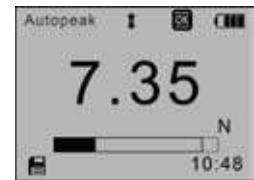

Figure 2-12
*Series:* Continuous data logging will only operate while in the Auto Peak measuring mode. When the peak time has expired, unit stores the current displayed peak value and then resets the peak value on the display. Touch “LOG” to start, touch “LOG” again to end. (Figure 2-12)